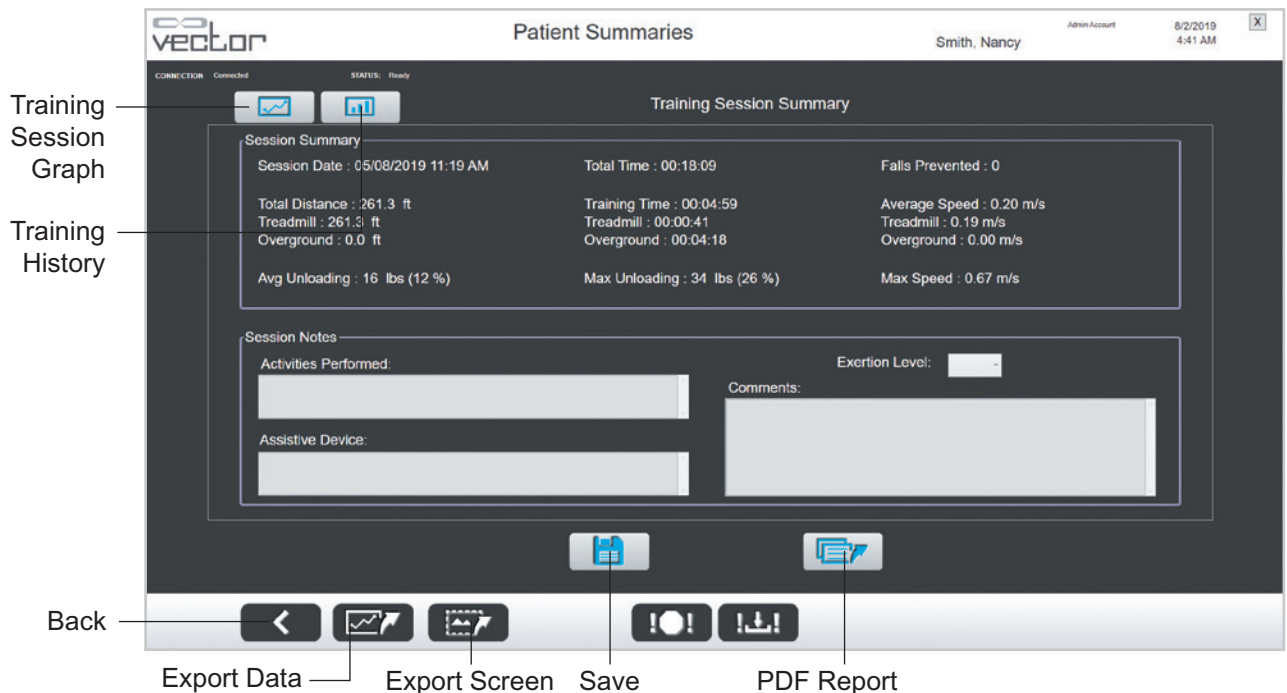
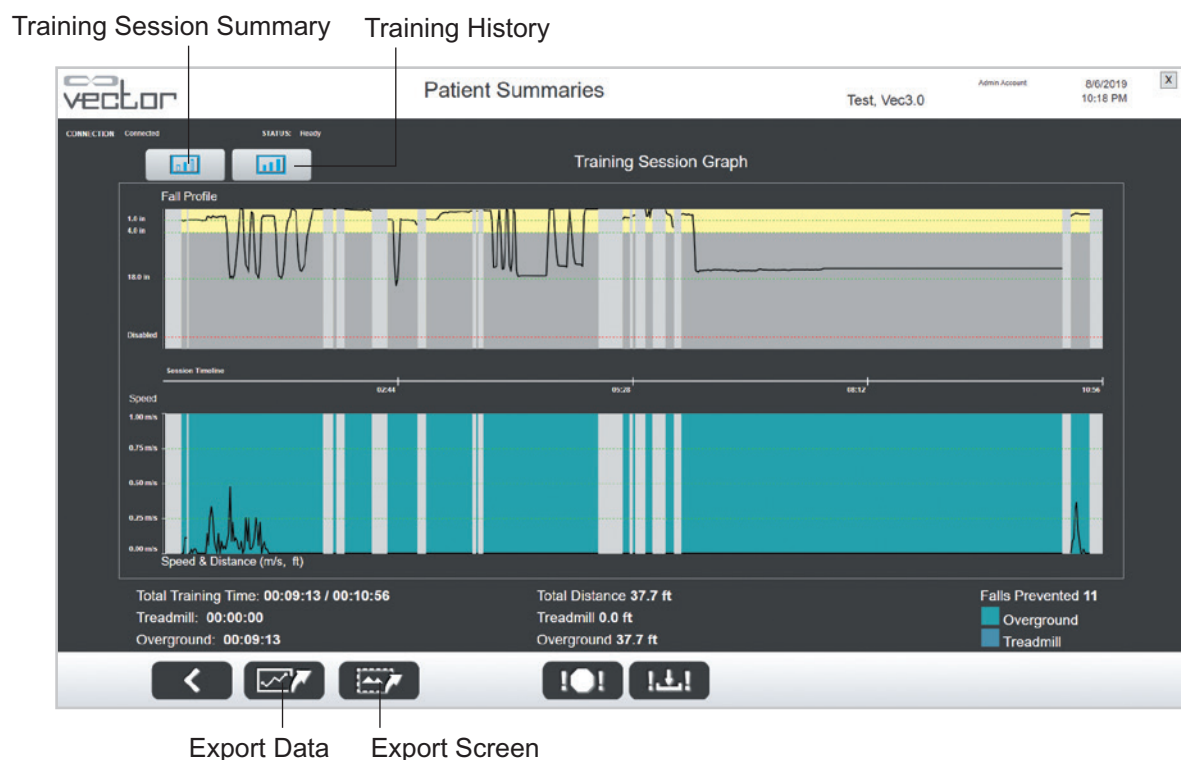

Figure 8-6: Training Session Summary
Figure 8-7: Training Session Graph
7. From the Training Session Summary screen, press Training Session Graph. See Figure 8-6. This displays the summary in graph format. See Figure 8-7.